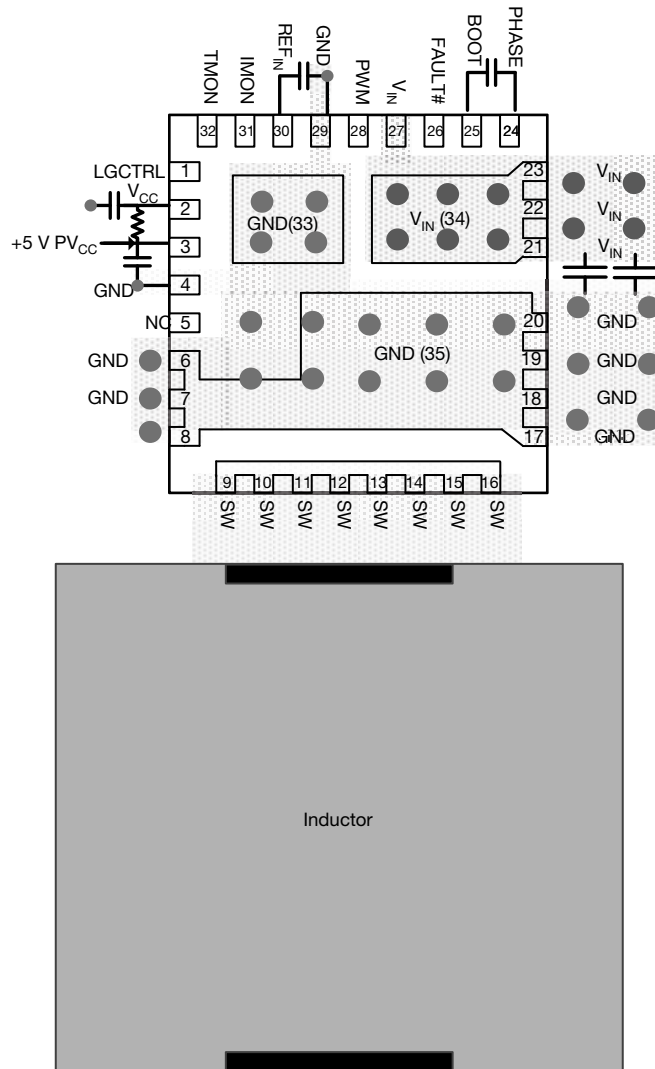
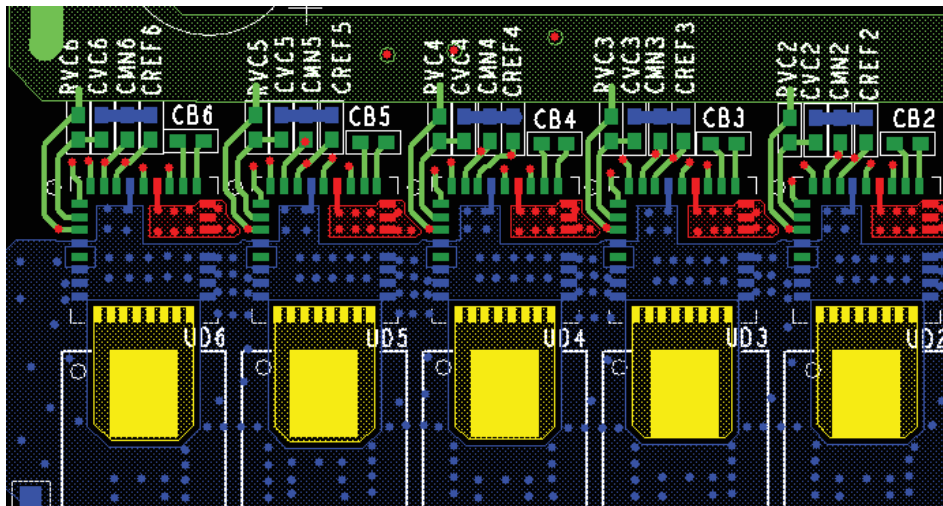
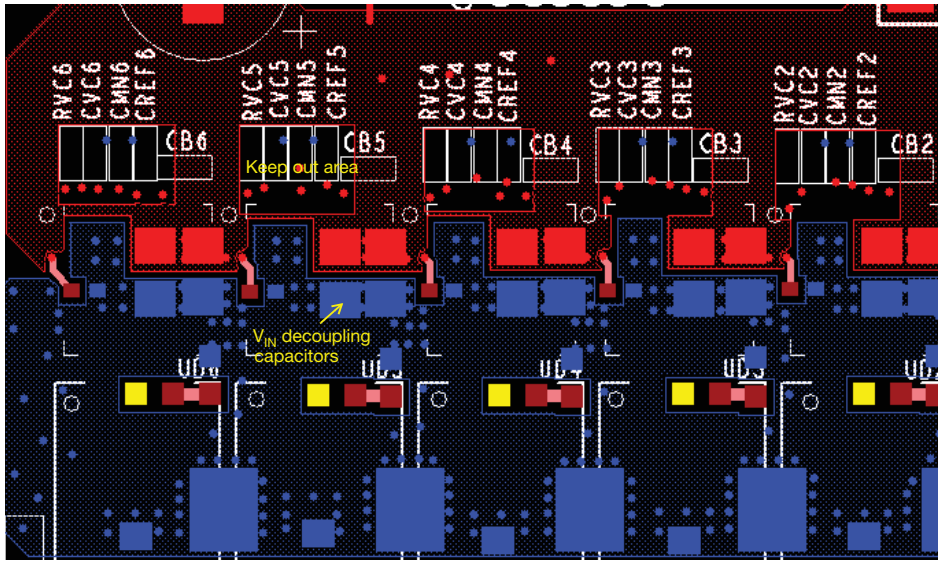

Fig. 16 - Single-Phase PCB Layout for Minimizing Current Loops
Fig. 17 - Multi-Phase PCB Layout Example Top Layer
Fig. 18 - Multi-Phase PCB Layout Example Bottom Layer
- Place multiple 10 μF or greater ceramic capacitors directly at device between V_{IN} and P_{GND} as indicated in Fig. 16 This is the most critical decoupling and reduced parasitic inductance in the power switching loop. This will reduce overall electrical stress on the device as well as reduce coupling to other circuits. Best practice is to place the decoupling capacitors on the same PCB side as the device. For a design with tight space requirements, these decoupling capacitors can be placed under the device, i.e., bottom layer, as shown in Fig. 18
- Place PV_{CC}, V_{CC} and BOOT-PHASE decoupling capacitors at the IC pins as shown in Fig. 16.
- The I_{MON} and IREF network and their vias should not sit on the top of the V_{IN} plane, a keep out area is recommended, as shown in Fig. 18.
Fig. 17 and Fig. 18 show a multiphase PCB layout example.